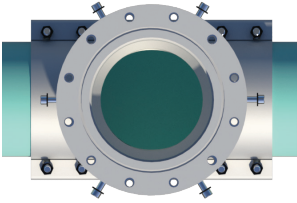

Figure 6
**10)** Check inside of fitting body outlet to ensure gasket is properly seated. Ensure completion plug set pins are flush with I.D. of the flange (see Figure 6).